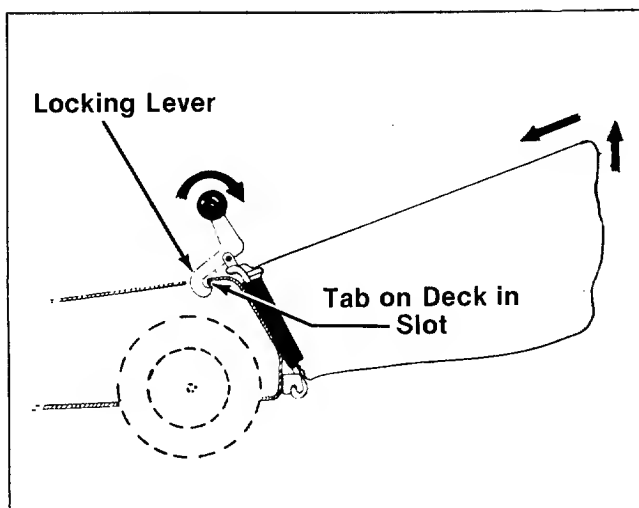

FIGURE 13.
2. Lift off grass catcher. See figure 13.